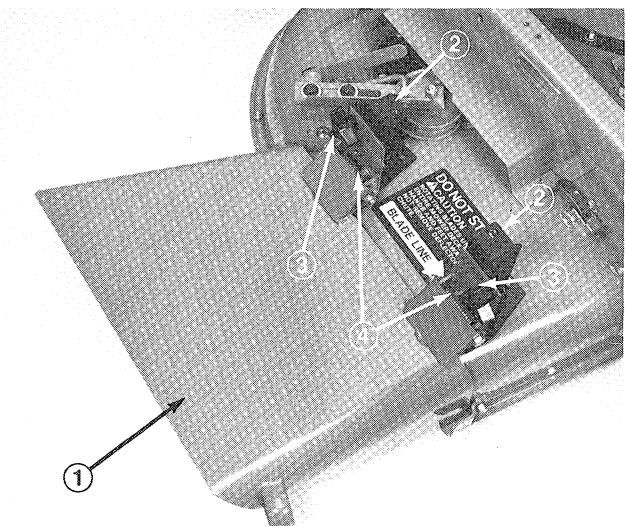

Figure 11
2. Position grass deflector mounts on outside of pivot brackets (included in kit) and secure parts together with capscrews, locknuts, and washers previously removed (Fig. 11). Both locknuts must face each other. Tighten locknuts until they are flush against deflector pivots.